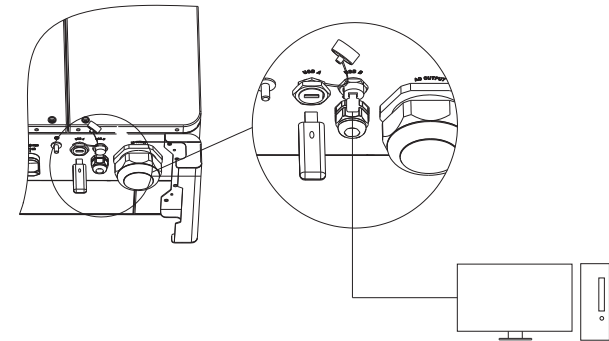

Fig 6.8A
- 2> As shown in Figure 6.8A, plug the USB to WIFI dongle to USB\_A port, the indicating LED will lit up.